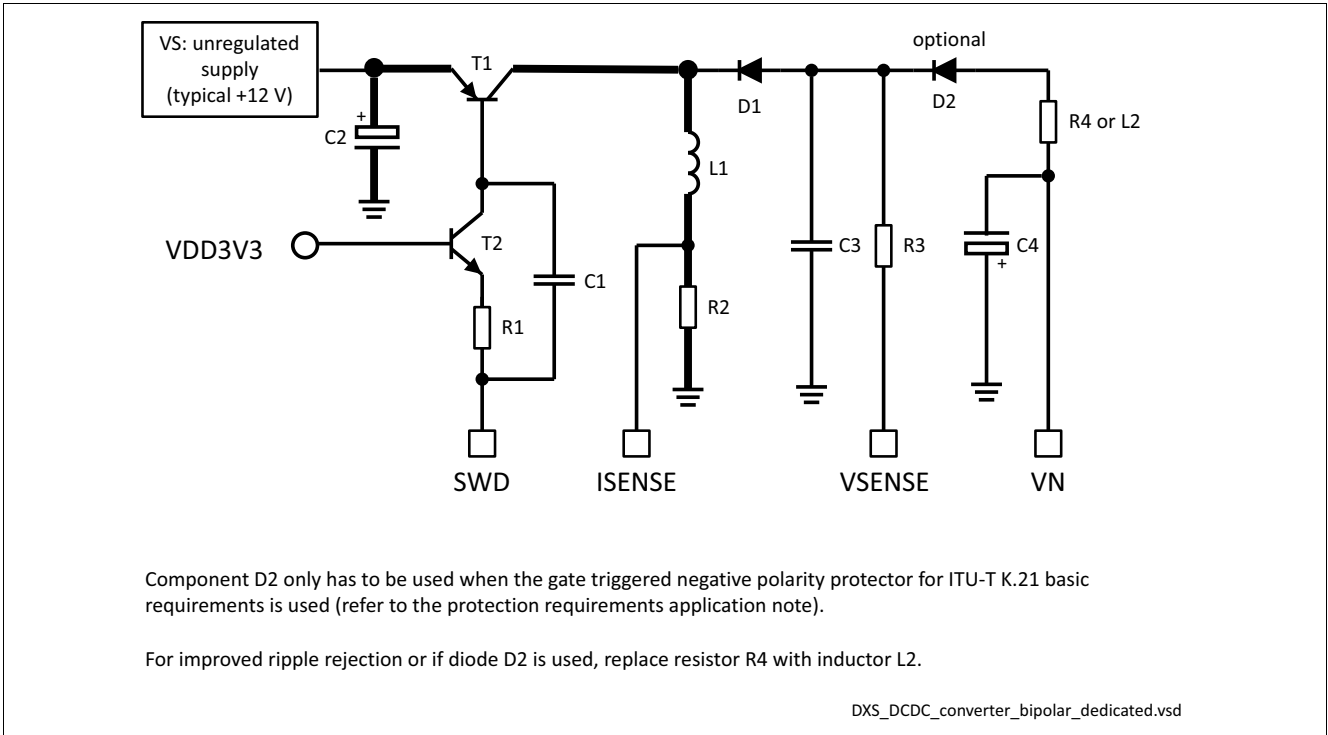

Figure 8 Inverting Buck-Boost Converter Circuit for 12 V (IBB12)
- **Inverting buck-boost DC/DC converter with input voltage +12 V (IBB12)**, see Figure 8
Inverting Buck-Boost Converter Circuit T0.2 for 12 V, see Figure 8